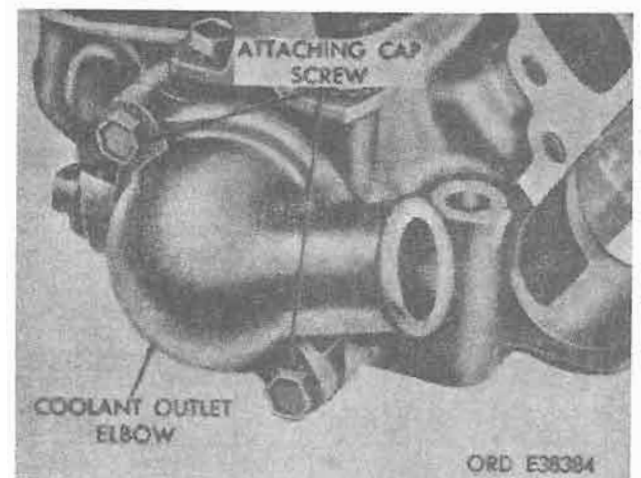

Figure 4-126. Water outlet connection.
(1) *Water outlet connection.* Remove two hex-head capscrews and washer assemblies securing outlet connection to cylinder head. Remove outlet connection (fig. 4-126) and gasket from cylinder head. Discard gasket.
(3) *Coolant outlet connection.* Position new gasket on coolant outlet connection and assemble to cylinder head with two 5/16-18x7/8 hex-head capscrew and washer assemblies. Tighten screws to 10-15 lb.-ft. torque. Refer to figure 4-126.